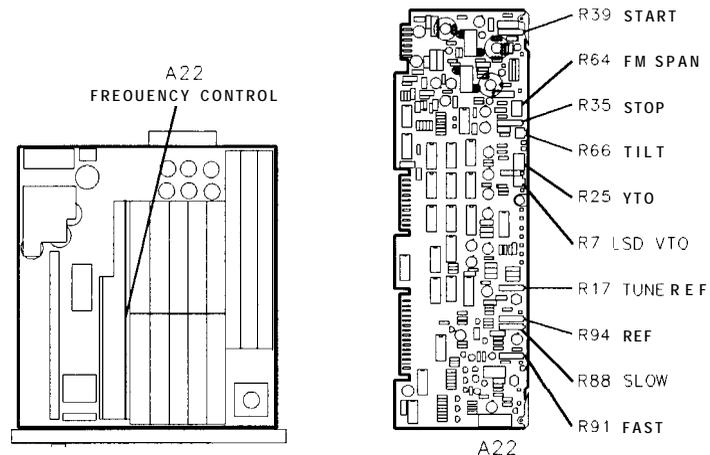

Figure 3-71. Location of Frequency Control Adjustments
See Figure 3-71 for location of adjustment.
6. Adjust A22 TUNE REF A22R17 for DVM indication of -10.285 ± 0.001 V dc. See Figure 3-71 for location of adjustment.
16. Connect DVM to A22TP6 and ground to A22TP12. If using an HP 3456A DVM, press (STORE) (7)^Z, (ENTER EXP) (8)^Y, (0), (STORE) (8)^Y, then (MATH), (7) (X-Z)/Y. If not using an HP 3456A DVM, note voltage indication for reference later.
18. Adjust A22 YTO A22R25 for DVM indication of + 10.230 ±0.001 V dc. If not using an HP 3456A DVM, adjust for specified voltage plus the DVM indication noted in step 16. See Figure 3-71 for location of adjustment.
19. On the HP 3456A, Press (MATH) (0) OFF.
21. Key in (SHIFT) (CF STEP SIZE)^J 0 Hz. If using an HP 3456A DVM, press (STORE) (7)^Z, (ENTER EXP) (8)^Y, (0), (STORE) (8)^Y, then (MATH), (7) (X-Z)/Y. If not using an HP 3456A DVM, note voltage indication for reference later.
23. Adjust A22 LSD VTO A22R7 for DVM indication of +0.0218 ±0.0001 V dc. If not using an HP 3455A DVM, adjust for specified voltage plus the DVM indication in step 20. See Figure 3-71 for location of adjustment.
27. Adjust A22 START A22R39 for frequency counter indication of 2.050 GHz ± 0.002 GHz. See Figure 3-71 for location of adjustment.
29. Adjust A22 STOP A22 STOP A22R35 for frequency counter indication of 3.7891 ±0.002 GHz. See Figure 3-71 for location of adjustment.
32. Adjust A22 FM SPAN A22R64 so that the LO Feedthrough signal is centered on the left edge graticule and the 20 MHz CAL OUTPUT signal is centered on the right edge graticule. See Figure 3-71 for location of adjustment.